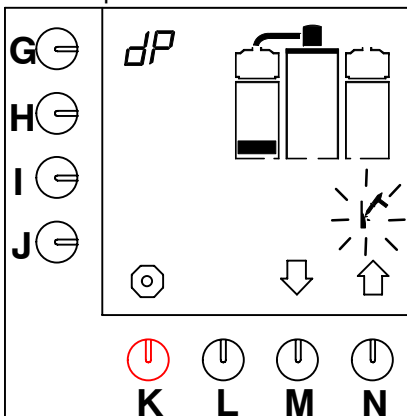

Fig. 17 First level descaling programme coffee-making system
- The first level block appears on the display and the hammer symbol flashes (fig. 17).